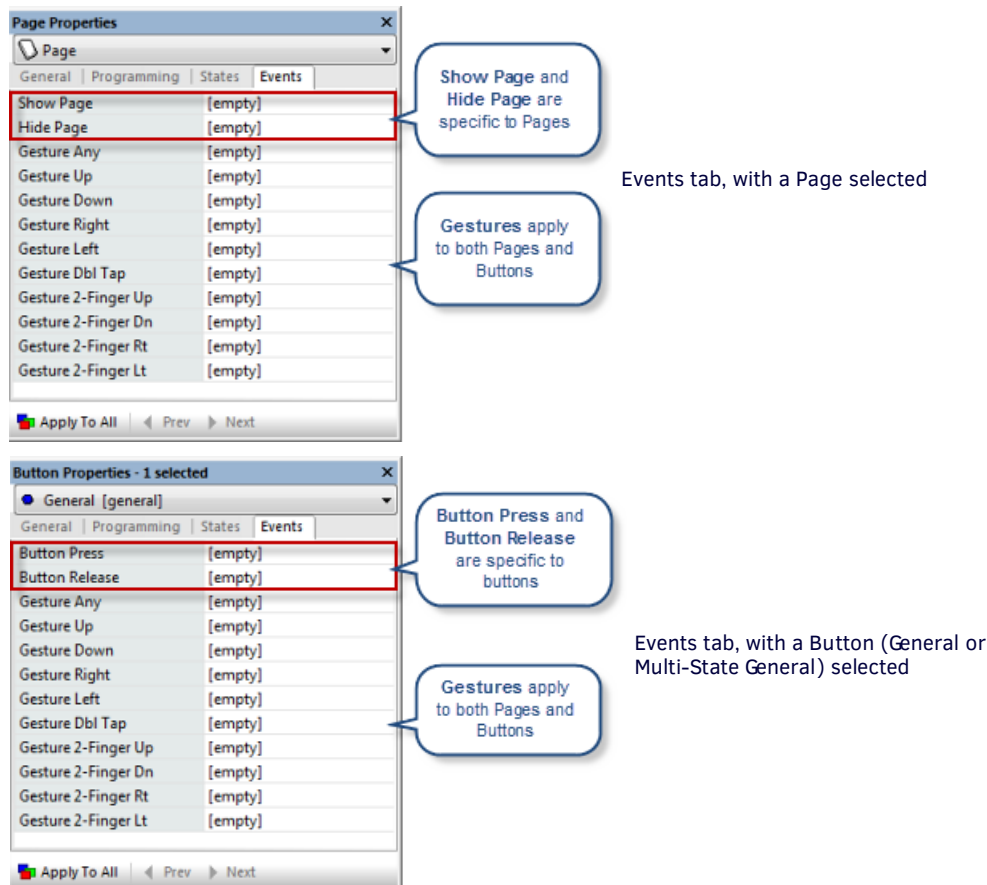

FIG. 370 Properties window - Events tab
2. In the Properties window, open the *Events* tab (FIG. 370):